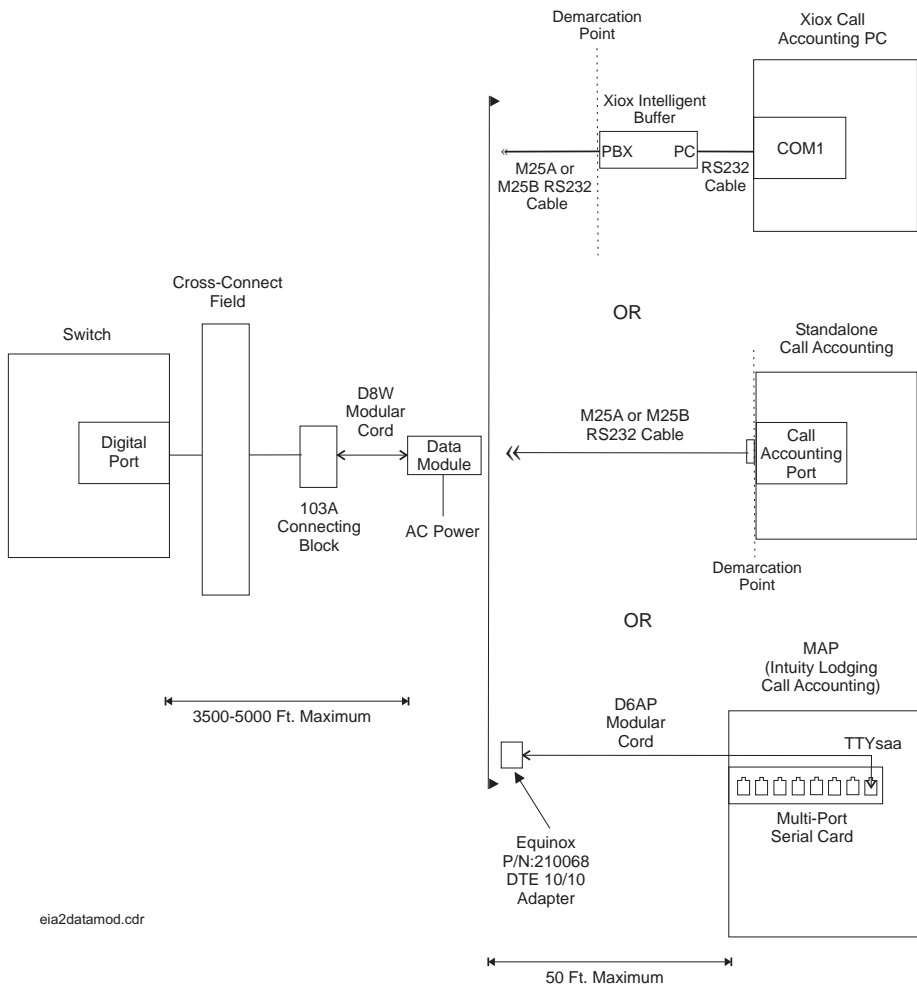

Figure 20. Call accounting link using DCP data modules
Figure 20 shows the connection between the switch and the call accounting system (INTUITY Lodging Call Accounting or stand-alone call accounting) when using a DCP data module. Use these connections for *r* systems.
5. Reconnect the unit as shown in Figure 20.
6. Reconnect the unit as shown in Figure 20.